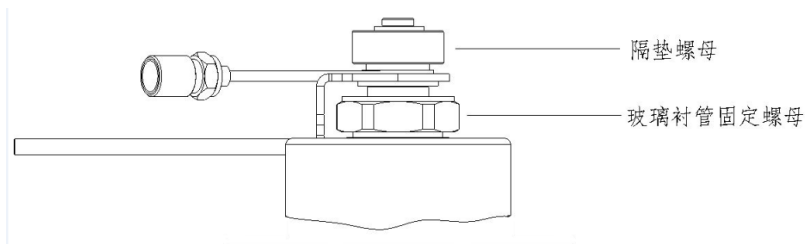

Figure 2-6 Injection port outline
1. Hand-tighten the septum nut (Figure 2-6).